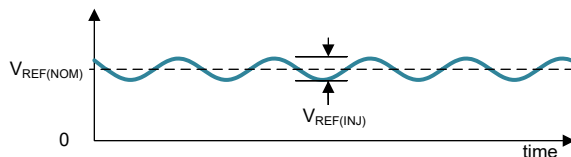

Figure 2-4. Waveform Applied to V_{REF} for the Rejection Test
- The AWG injects a modulated reference voltage, with $V_{REF}(NOM) = 3V$ and $V_{REF}(INJ) = 300mV_{pp}$ (sinewave) (Figure 2-4)